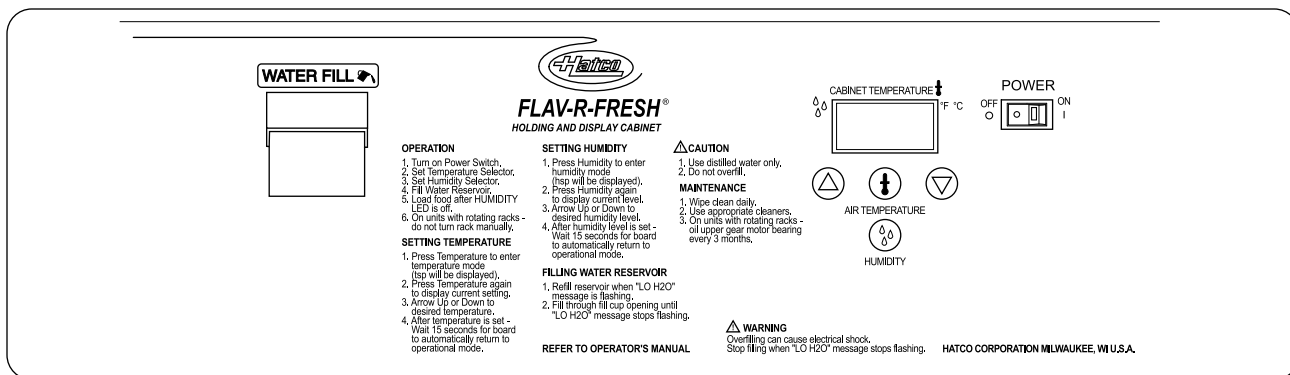

Figure 9. Flav-R-Fresh® Control Panel
3. Fill the water reservoir with **softened** or **distilled** water. To fill the reservoir, lift up the fill cup cover and pull forward (see Figure 9.). Slowly pour the water into the cup until "LO H2O" stops flashing on the CABINET TEMPERATURE display.